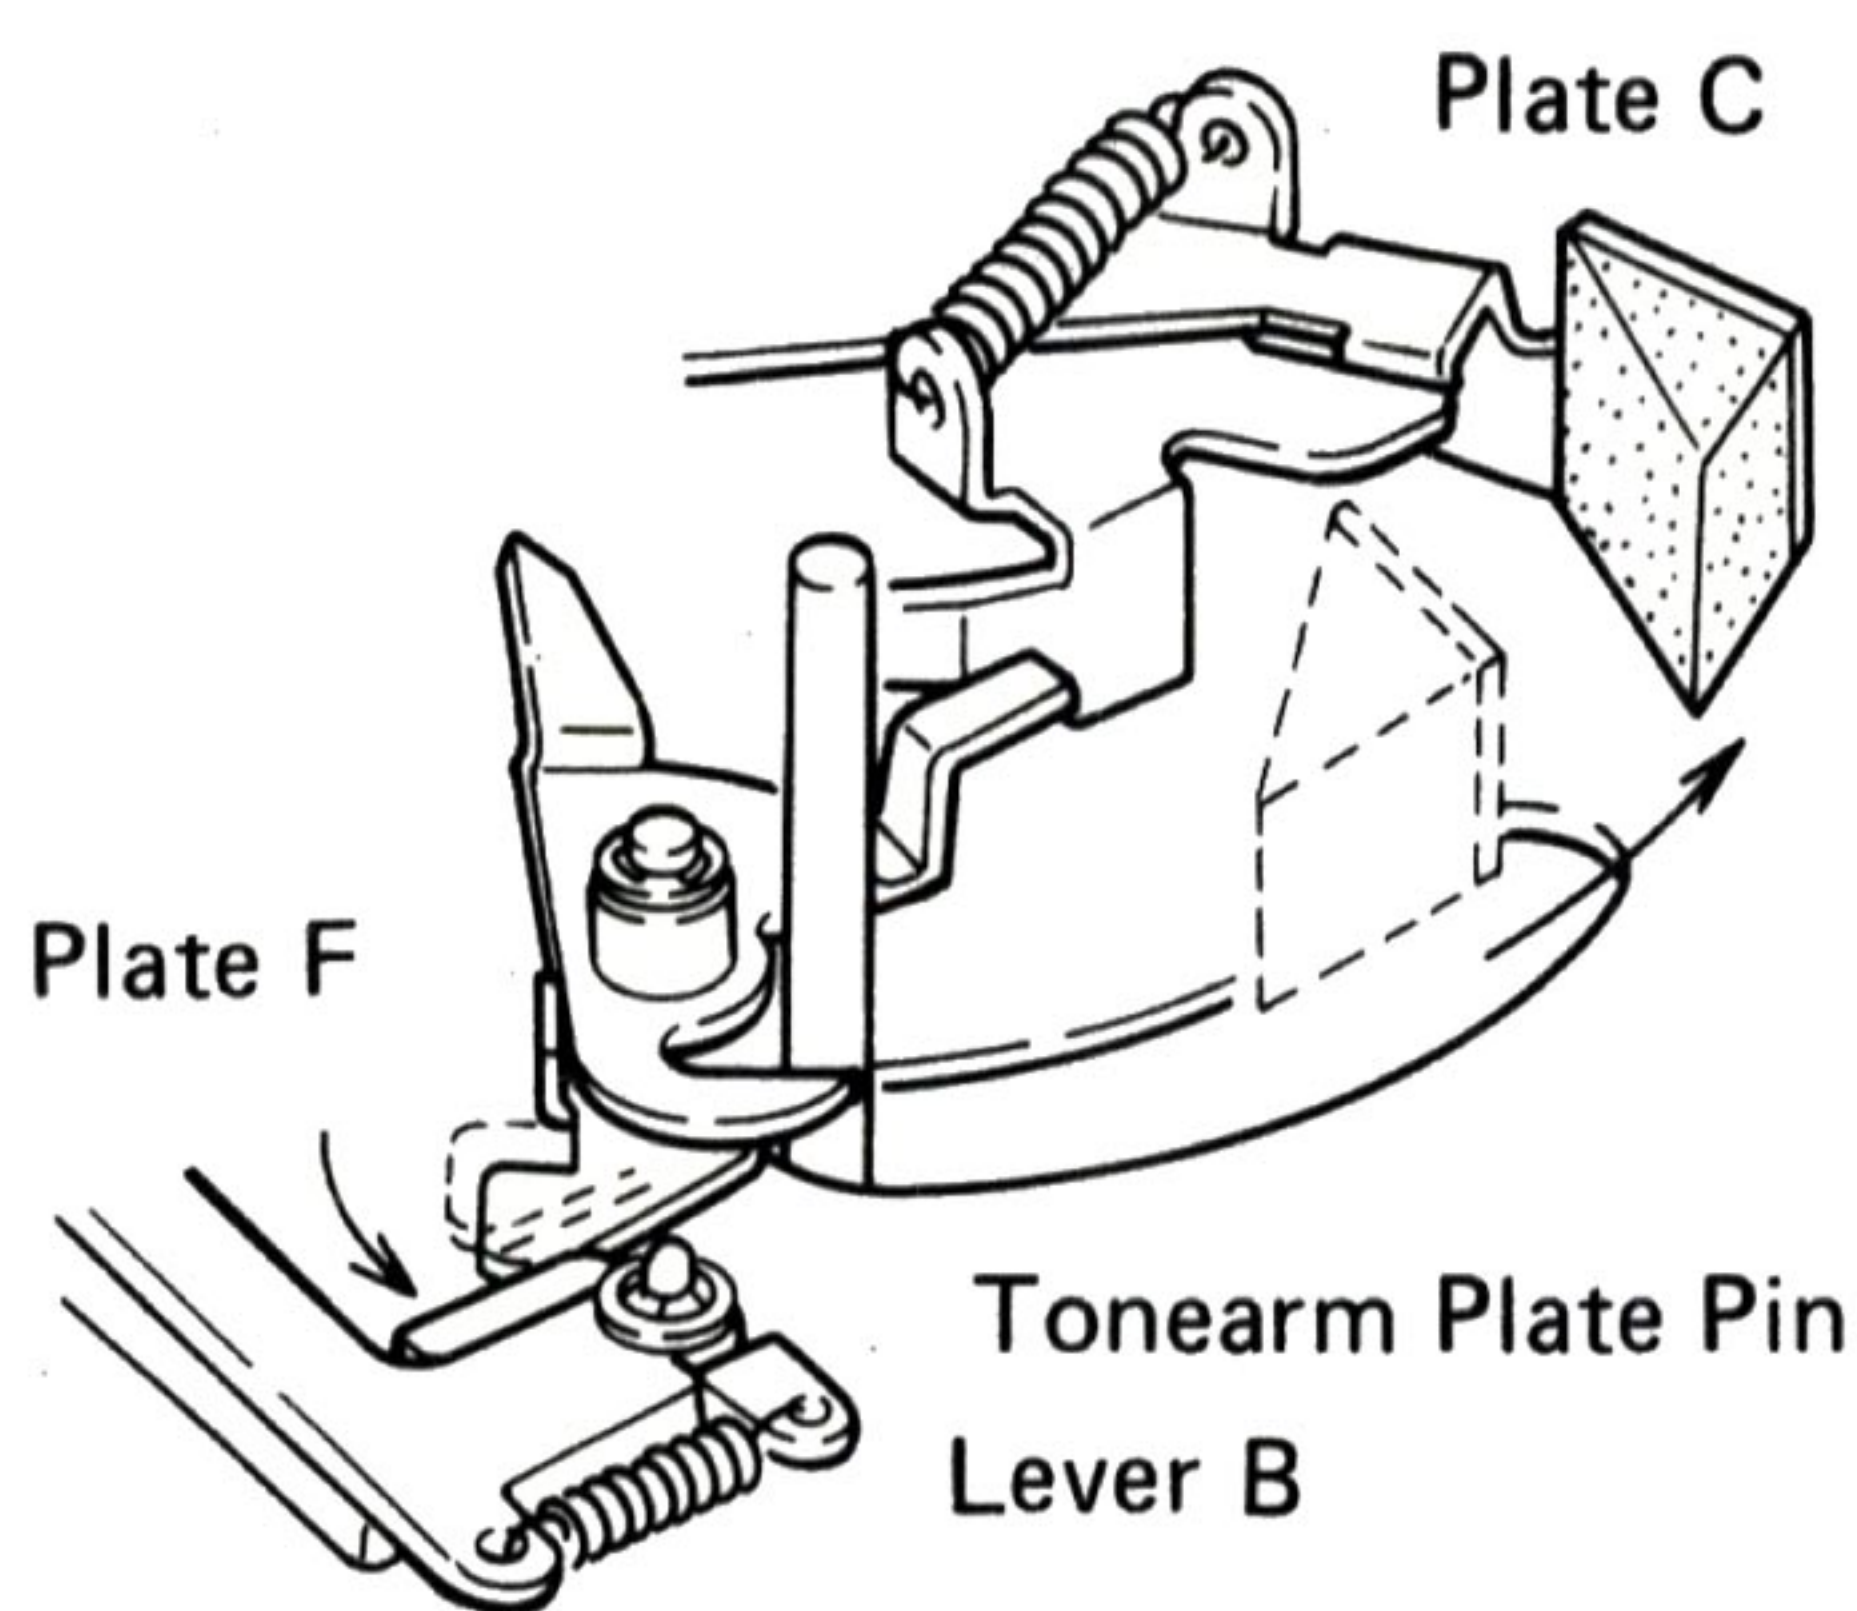

Fig. 21
- Next, plate B reverses its rotation, and plate C is returned to its original position. As lever B is not locked, it obstructs the movement of plate F. Plate F cannot operate, and the tonearm is not moved from its rest position. (Fig. 21).